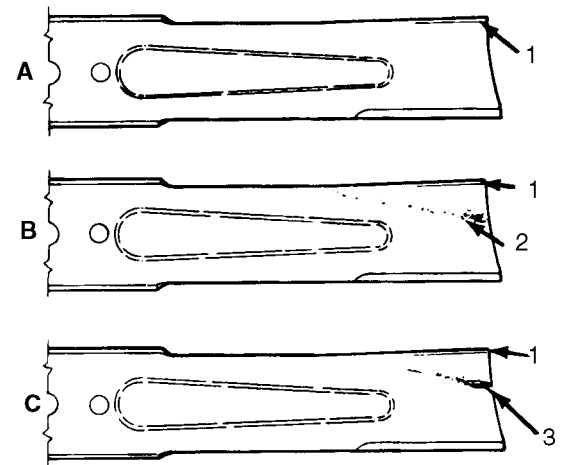

Figure 17
INSPECTING AND SHARPENING THE BLADE (Fig. 17–18)
4. Examine the cutting ends of the blade carefully, especially where the flat and curved parts of the blade meet (Fig. 17-A). Since sand and abrasive material can wear away the metal that connects the flat and curved parts of the blade, check the blade before using the machine. If wear is noticed (Fig. 17-B), replace the blade: refer to *Removing The Cutter Blade*.
If the blade is allowed to wear, a slot will form between the sail and flat part of the blade (Fig. 17-C). Eventually a piece of the blade may break off and be thrown from under the housing, possibly resulting in serious injury to yourself or a bystander.